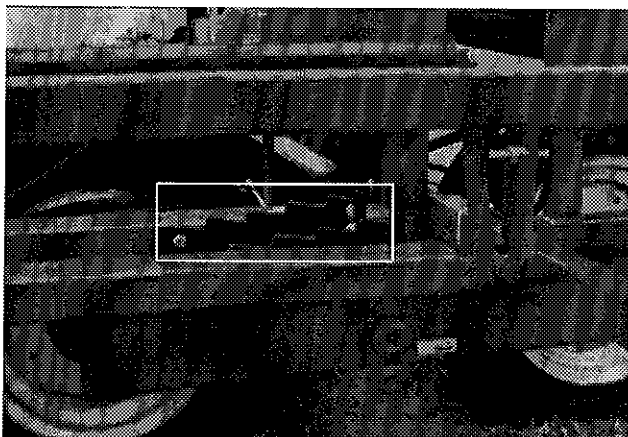

Figure 21
- 3) Adjust the two bale friction pads (Figure 21) so that the first bale in the elevator section will not slide on its own and trip the "full elevator switch" when the machine is going uphill.